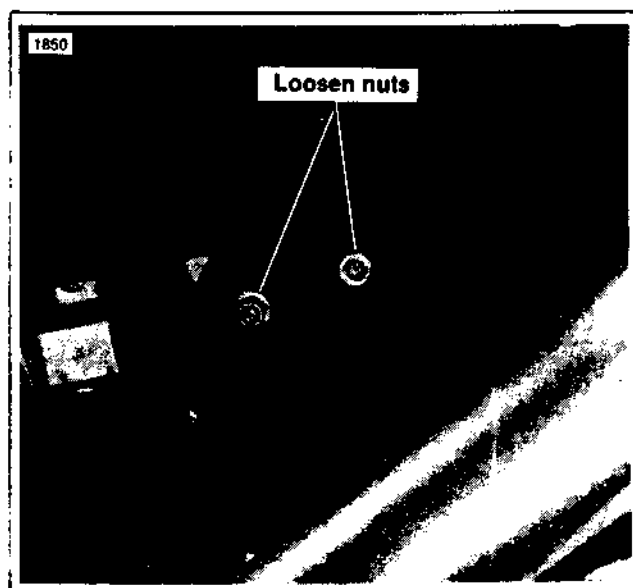

Figure 4. Starter Motor Frame
6. See Figure 4. Loosen two nuts securing starter motor.
10. See Figure 4. Tighten two nuts securing starter motor.